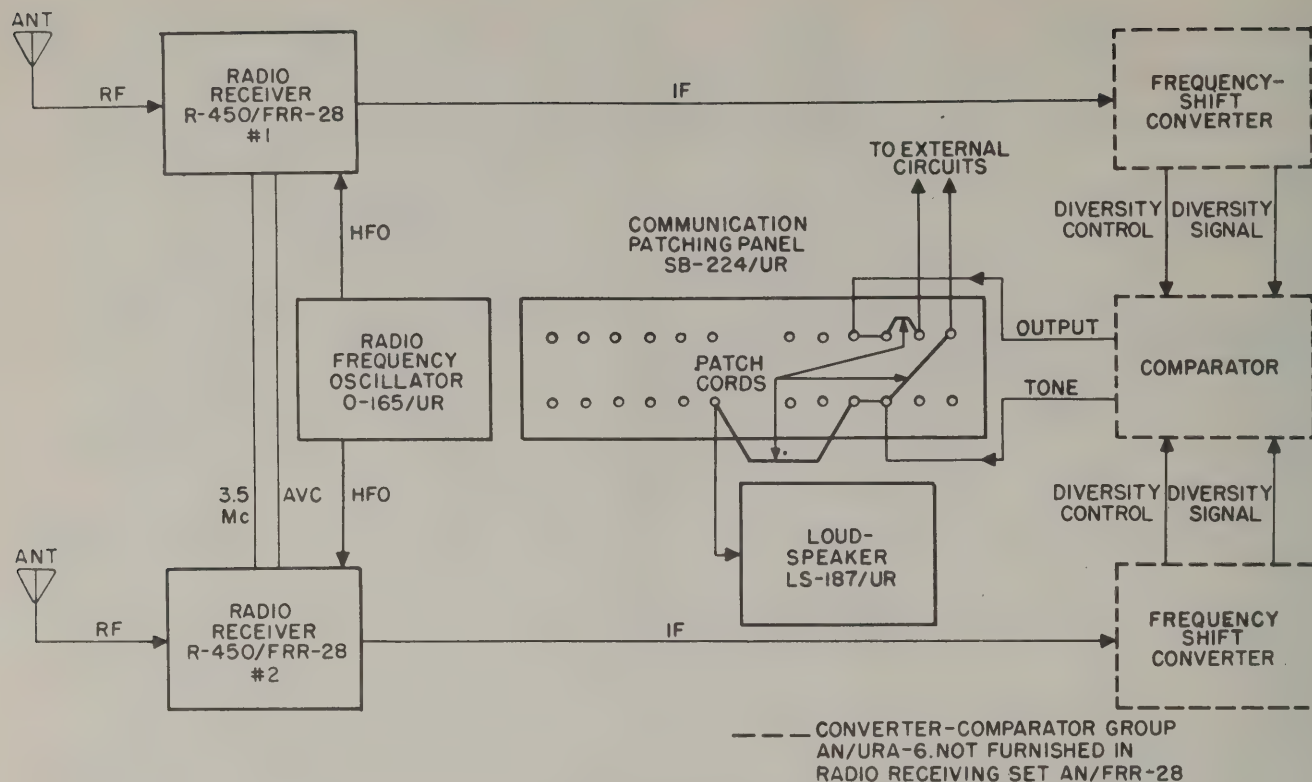

Figure 2-6. Radio Receiving Set AN/FRR-28, Block Diagram, Diversity Reception of FS Signals, Using IF Type Converter
f. DUAL SPACE AND FREQUENCY DIVERSITY RECEPTION OF FREQUENCY-SHIFT SIGNALS. (See figure 2-6.)—Frequency-shift signals are fed from the antenna to the receivers. Either Oscillator O-165/UR or the receiver internal oscillators are used to provide the HFO signal for space diversity reception. RF Oscillator O-165/UR is preferred, due to its greater stability in preventing receiver drift and loss of the frequency-shifted signal. When the receiver internal oscillators are used, the receivers are tuned with the Amplifier-Detector AM-615/UR. In frequency diversity reception of frequency-shift signals, Oscillator O-165/UR cannot provide the HFO signal for both